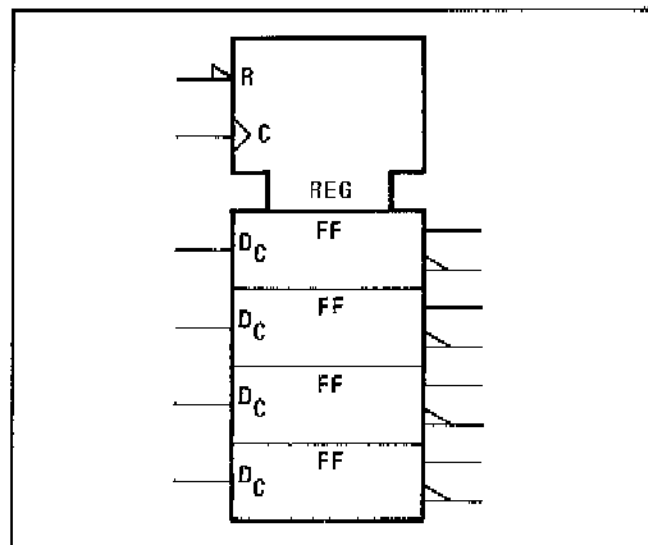

Figure 8-15. Quad D-Type Latch Example
Figures 8-15 through 8-17 show how the basic symbols can be combined in various ways to illustrate the behavior of fairly complex devices.
8-72. Quad D-Type Latch. Refer to Figure 8-15. The register control block is used to illustrate a quad D-type latch. There is a common active-low reset (R), and a common edge-triggered control input (C). Since there is only one dependency relationship, the controlling input is not numbered and the controlled function (D) is subscripted with a C.